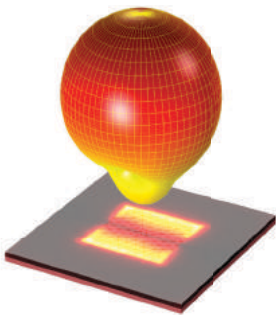
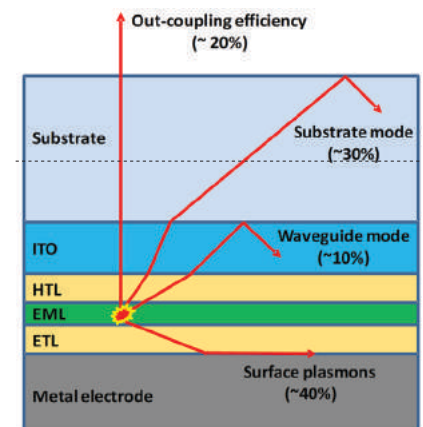

Figure 3. Single patch antenna. Logarithmic electric field norm on patch, mesh, and 3D far-field radiation pattern are visualized.
Figure 2. Schematic of a multilayer OLED structure showing various types of light losses.
Figure 2 shows a simulation of a 4x2 phased microstrip patch antenna array which can steer the beam in the desired direction. This example is significantly more memory intensive and will take a longer time to compute than a single microstrip patch antenna (Figure 3).
Results shown in Figure 3 are based on a full finite element method (FEM) model of a single slot-coupled microstrip patch antenna built on low-temperature co-fired ceramic (LTCC) layers, initially operating at 30 GHz.
**OLEDs ARE COMPOSED** of organic semiconductors sandwiched between positive (anode) and negative (cathode) electrodes. Figure 2 shows the layout of an OLED device, with an anode made of transparent indium tin oxide (ITO), three organic layers — a hole transport layer (HTL), emitting layer (EML), and electron transport layer (ETL) — and a silver cathode. These are all fabricated on a glass substrate, which light passes through when the device is turned on.
**BUT SOME PHOTONS NEVER** make it to the outside world. Light losses in an OLED can occur through several mechanisms, such as differences in the refractive indices of each layer that can cause light to reflect within the layers rather than traveling outward, as Figure 2 depicts.
Figure 3. Schematic showing surface plasmons coupling with dipole radiation in the OLED, catching the photons in the SPP wave rather than allowing them to be emitted through the OLED glass substrate.
Wang’s team primarily explored another mode of loss, the coupling of dipole emission with surface plasmons at the interface between the cathode and the organic material. Surface plasmons are waves of oscillating electrons on the surface of a conductor. In OLEDs, light emitted from radiating dipoles (molecular excitons) in the emissive layer can couple to the electron oscillations in the cathode, resulting in the presence of waves called surface plasmon polaritons (SPPs). These travel along the cathode surface as they decay, carrying away the emitted photons rather than permitting them to radiate through the glass (see Figure 3).
Figure 2. COMSOL® software results showing the current density at the anode (left) and power conversion efficiency (right), calculated for different distances between anode and cathode and different operating voltages.
Using numerical simulation they were able to test different layouts, changing the arrangement of the two electrodes in order to see which one resulted in the highest current output and efficiency (see Figure 2). “COMSOL allowed us to couple the space charge behavior to other physical effects involved, namely light absorption and carrier transport in the cathode.”